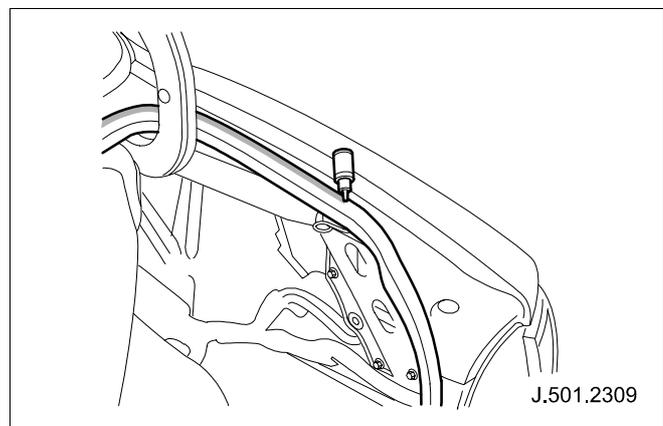

Fig. 3
- 2 Apply Dupont Krytox to contact surface of luggage compartment lid aperture seal. (See Fig. 3)